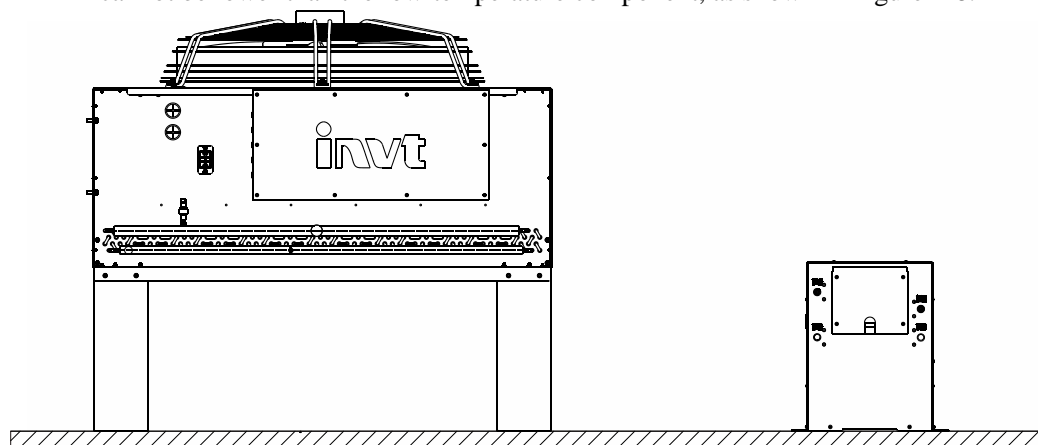
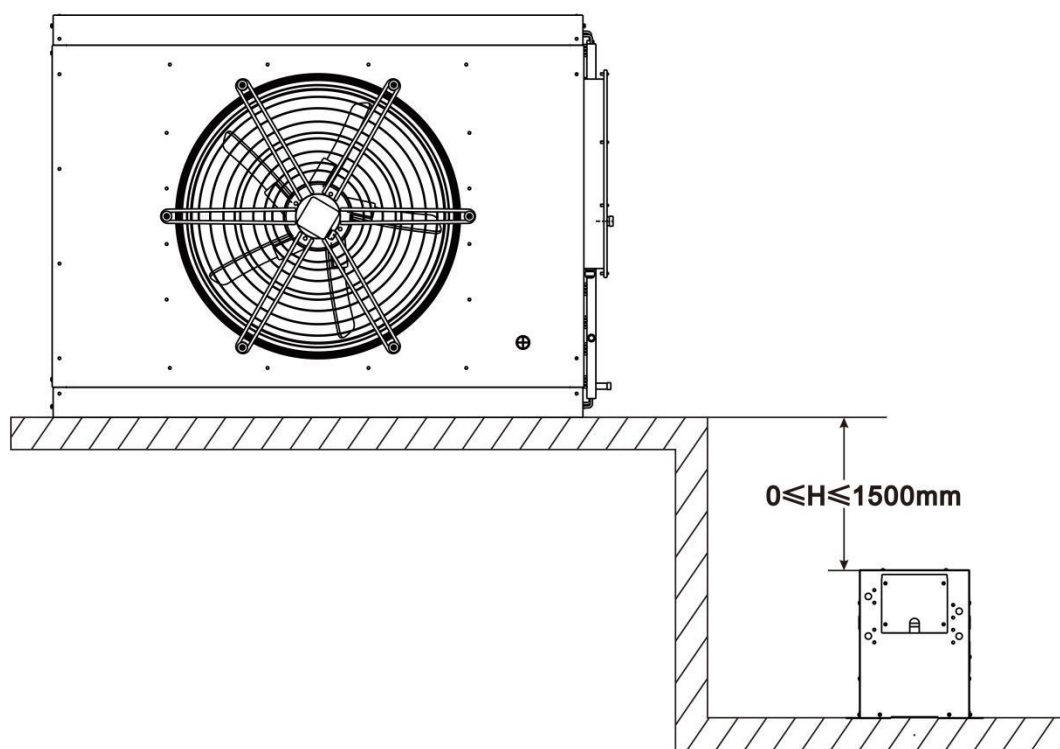

Figure 1-7 Schematic diagram of horizontal installation of low-temperature components
Figure 1-8 Schematic diagram of vertical installation of low-temperature components
- 4) When the outdoor unit is installed horizontally, the outdoor unit and the low-temperature component must be placed on the same height base or concrete support platform, as shown in Figure 1-7; when the outdoor unit is installed vertically, the outdoor unit can be at most 1.5m higher than the low-temperature component and cannot be lower than the low-temperature component, as shown in Figure 1-8.